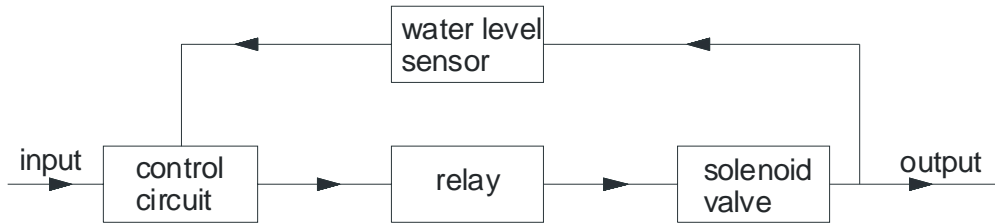

Fig. 11
- 4 An automatic washing machine is filled by water entering the drum through a solenoid valve. The solenoid is switched on by a control circuit and switches off when the water reaches a set level. The block diagram in Fig. 11 illustrates the system.